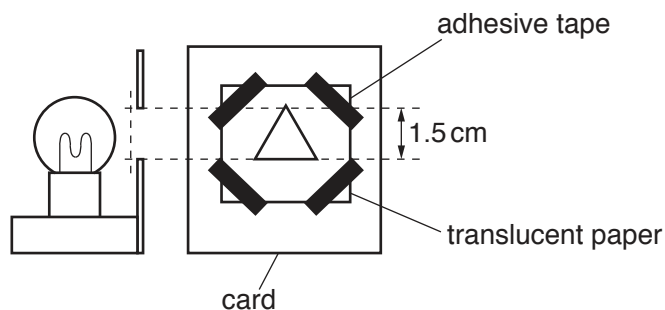

Fig. 3.1
- (iii) Illuminated object consisting of a rigid card with a triangular hole of height 1.5 cm (see Fig. 3.1). The hole is to be covered with thin translucent paper (e.g. tracing paper) secured with adhesive tape. See note 2.